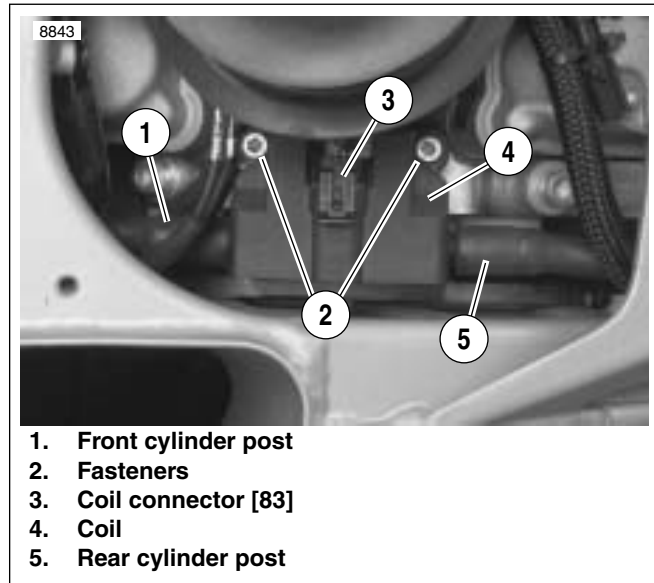

Figure 4-71. Ignition Coil Location
4. See Figure 4-71. Disconnect the spark plug cables from the coil plug posts (1, 5).
5. Detach connector (3) [83].
6. Remove coil fasteners (2).
2. See Figure 4-71. Attach coil to frame with fasteners (2). Tighten to 120-144 in-lbs (13.6-16.3 Nm).
4. Attach connector (3) [83].